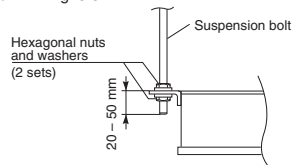

Fig. 3-5
- (3) Suspend and fix the indoor unit using the 2 hexagonal nuts (field supply) and special washers (supplied with the unit) as shown in Fig. 3-5.